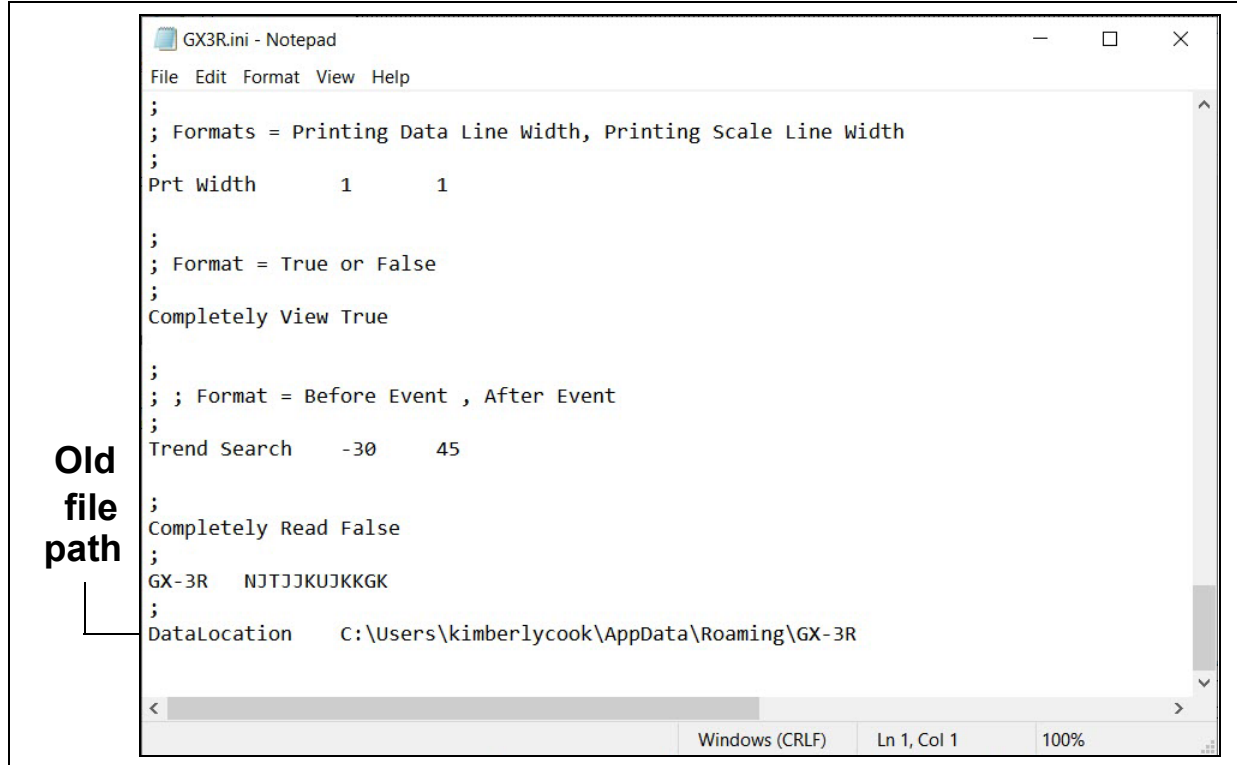

Figure 2: GX3R.ini File with Original Path
5. Scroll down to the very last line. This line is the Data Location path. An example of the path created by the program is shown in Figure 2.